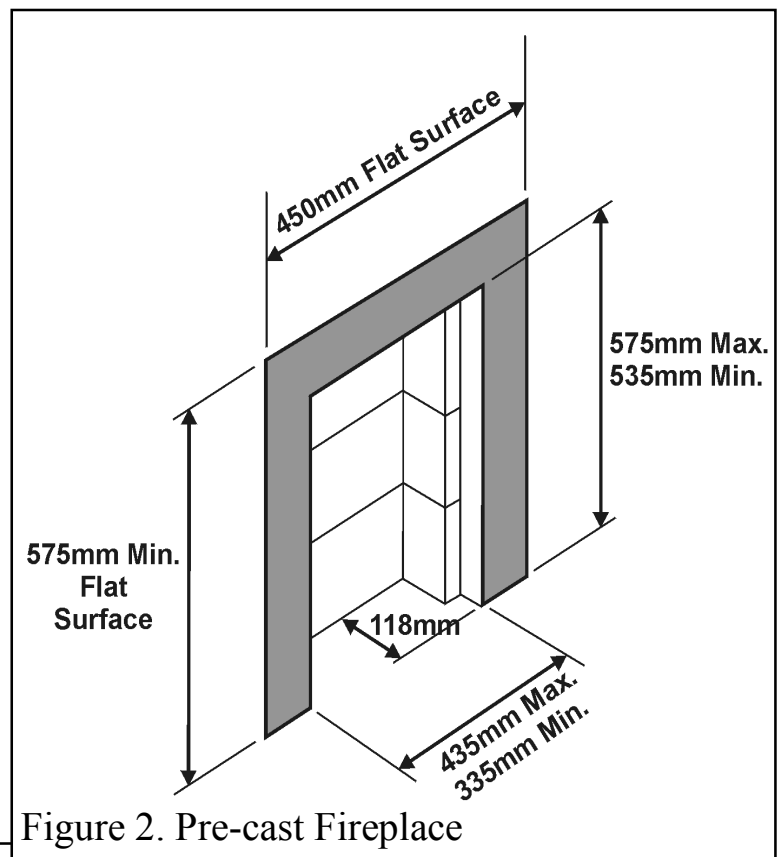

Figure 2. Pre-cast Fireplace
2.9.2 To a fireplace that has a precast concrete or clay flue block system conforming to BS1289 or BS EN 1806. The appliance is suitable for installations conforming to older versions of BS1289 as well as the current edition. The flue blocks must have a minimum width not less than 63mm and a cross-sectional area not less than $13,000\text{mm}^2$. Older editions of BS1289 required a cross-sectional area of $13,000\text{mm}^2$. The current revision of the standard requires $16,500\text{mm}^2$. This appliance is suitable in both cases. The total depth of the opening measured from the finished front of the fireplace (Including plaster, surround etc.) must be **not less than 118mm**. See figure 2.